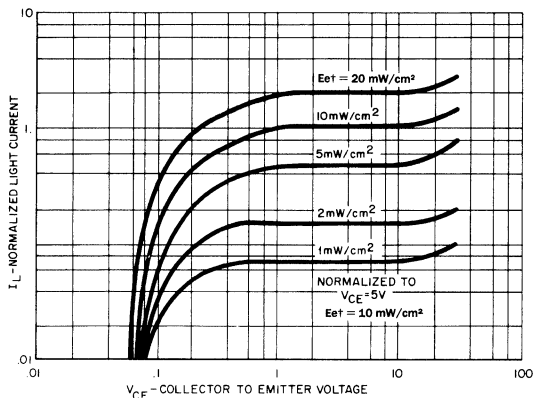
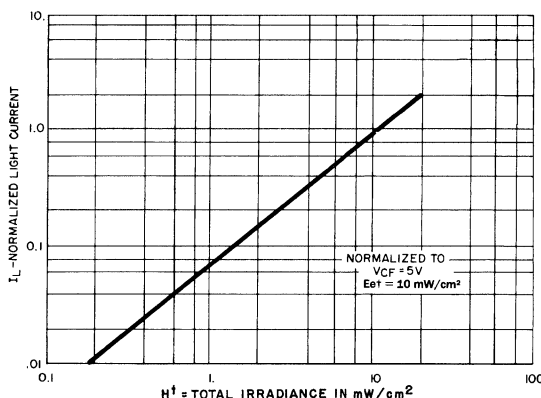

Fig. 1. Light Current vs. Collector to Emitter Voltage ST1250
Fig. 2. Normalized Light Current vs. Radiation ST1255
- Figure 1 and figure 2 use light source of tungsten lamp at 2870°K color temperature. A GaAs source of 3.0 mW/cm² is approximately equivalent to a tungsten source, at 2870°K, of 10 mW/cm².